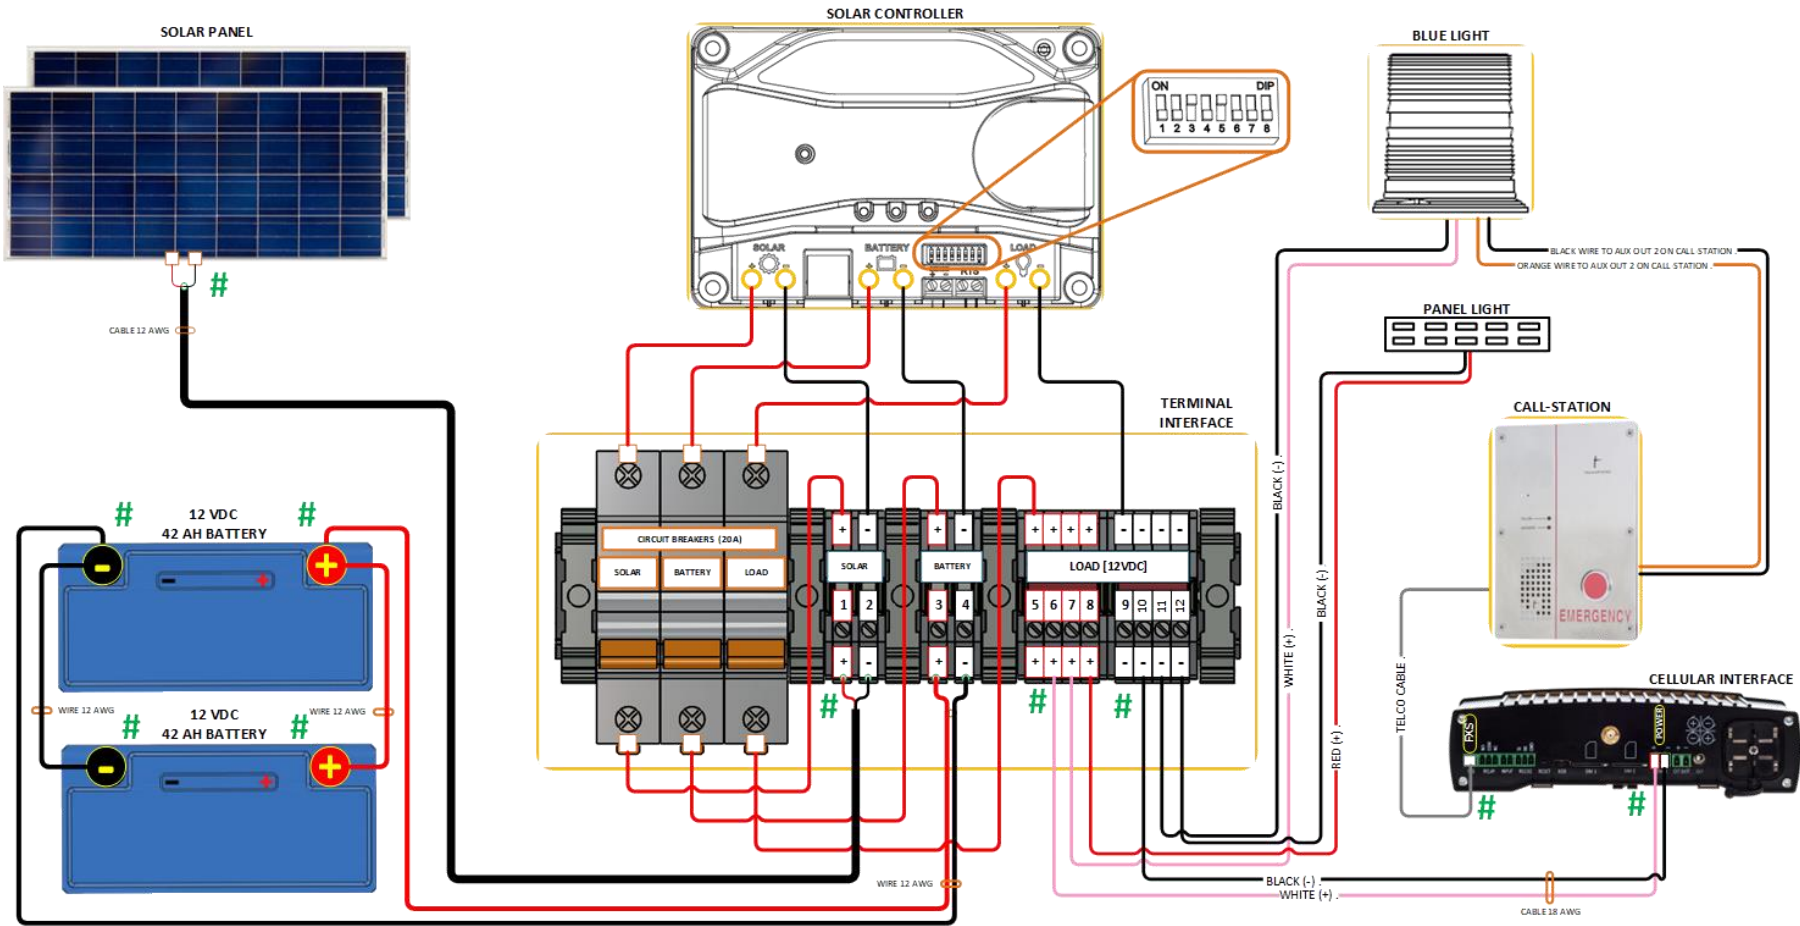

Figure 16. Solar system wiring schematic diagram
1. For an overview of electrical connections, refer to the wiring schematic diagram as shown in **Figure 16**.